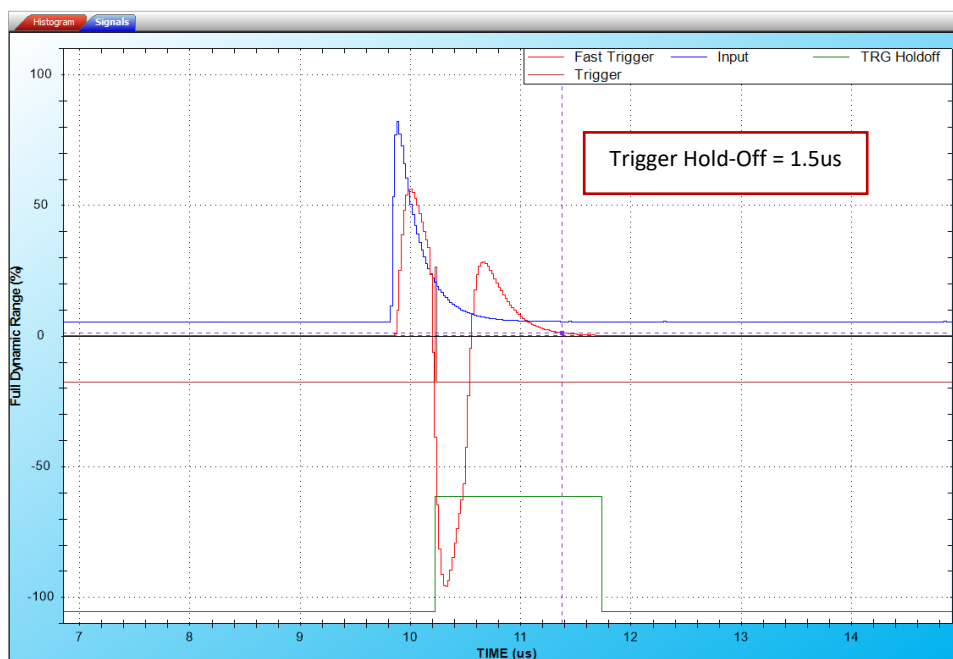

Fig. 3.26: RC-CR² signal with an overshoot. Set the Trigger Hold-Off to cover the overshoot and avoid re-triggering
3. In case the RC-CR² shows an overshoot (see **Fig. 3.26**), set the “**Trigger Hold-Off**” value as long enough to eventually include the overshoot inside it. The algorithm then inhibits any trigger occurring during the whole “Trigger Hold-Off” duration.